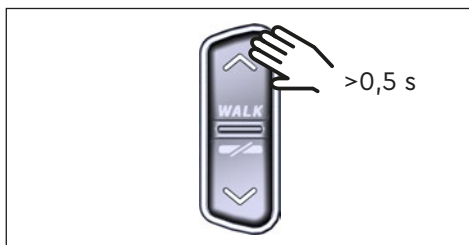

Fig. 9: Activate walk assist
- ▶ When the e-bike is at standstill, press the UP button on the Remote for longer than 0,5 s (see Fig. 9) to activate the walk assist.